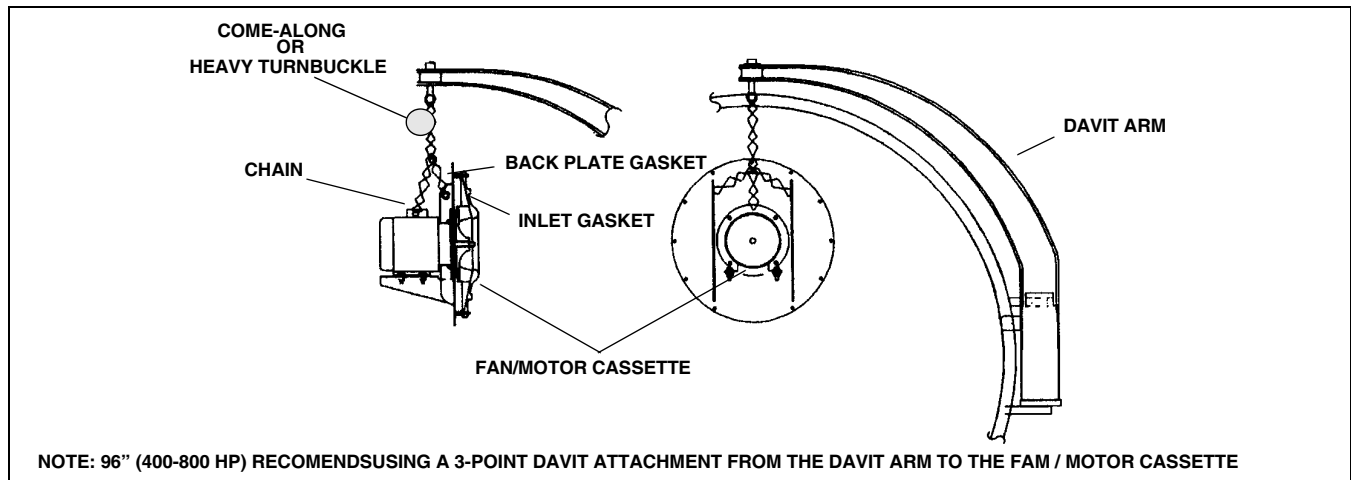

Figure 8-7 Fan / Motor Cassette
4. Connect the davit arm to the fan/motor cassette using the suspension system diagramed in **Figure 8-7**.